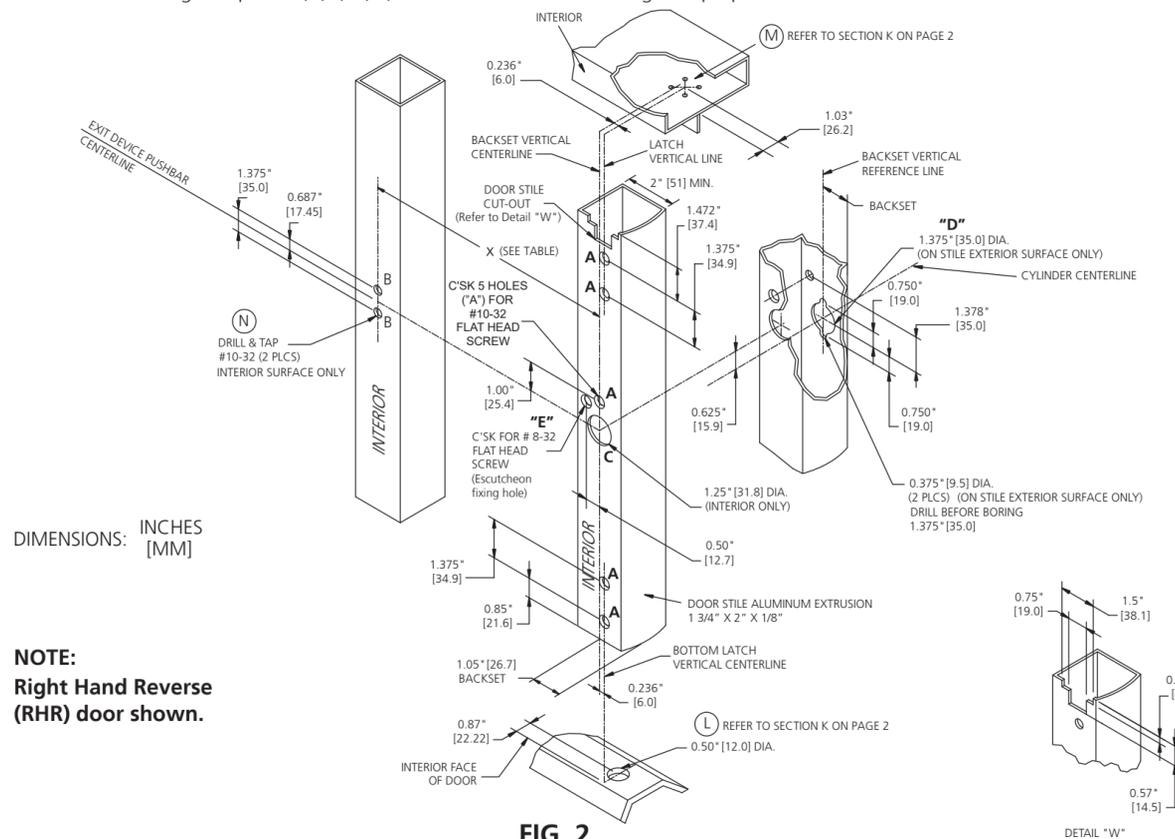
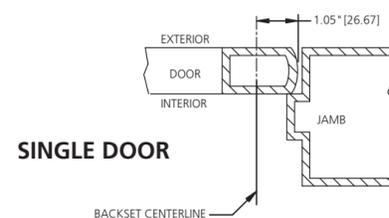
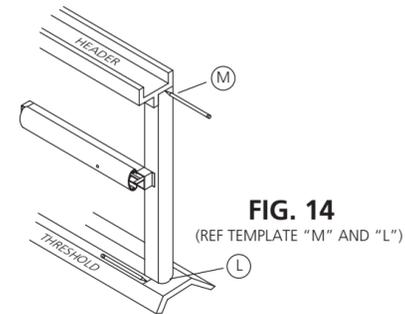

FIG. 2
FIG. 5
FIG. 14
1. Determine the exit device pushbar centerline height (H) and mark the door stile.
2. Mark the backset vertical centerline on door stile at the pushbar height (refer to figure 5 & 6) and the latch vertical centerline at top & bottom latch position (refer to figure 2).
1. With door mounted on frame (Fig.14), mark backset centerline on threshold and on the header (refer to fig 2 & 3 on sheet 1).